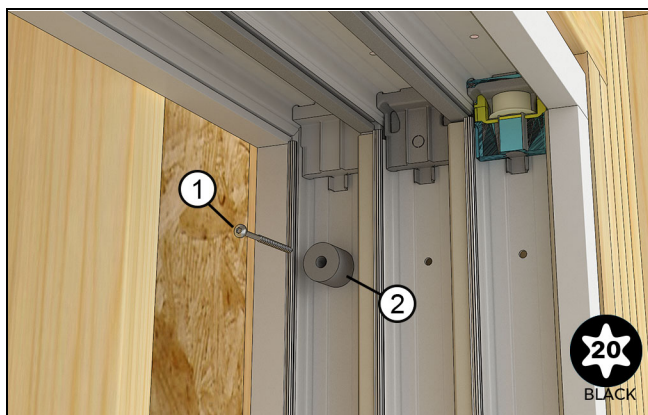

Figure 115 Pocket bumper at head jamb exterior track
1. Install the pocket bumpers on the exterior most jamb track through the top and bottom installation holes using #8x 3" (64) installation screws. If the installation screws are already in place, remove and insert the bumper using the same screw. See Figure 115 and Figure 116.